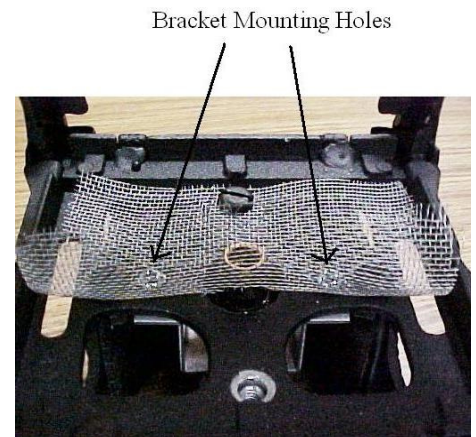

Figure 2
8. Install the quick-connect holding bracket by drilling two (3/16") clearance access holes for #10 screws in the base of the gaslight, using the bracket as a template (See Figure 2).